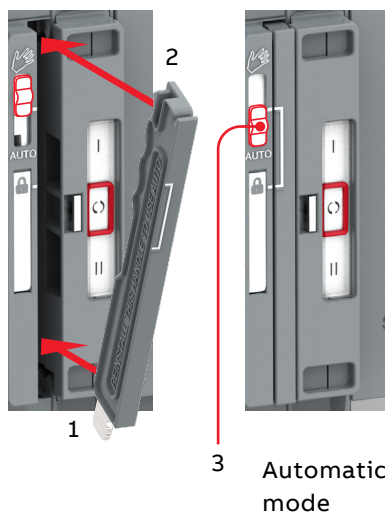

Fig. 3.6 The operating handle must set back to standby slot before moving to the automatic mode
- **Lock-position = Locking mode**, padlocking the automatic transfer switch in a specific position to prevent automatic and manual operation. Note! After the handle is set back to its place (standby slot), the slide switch will automatically move to the Locking mode and the switch is allowed to be padlocked. To set the operating handle back to its place, see the left picture in Fig. 3.6.